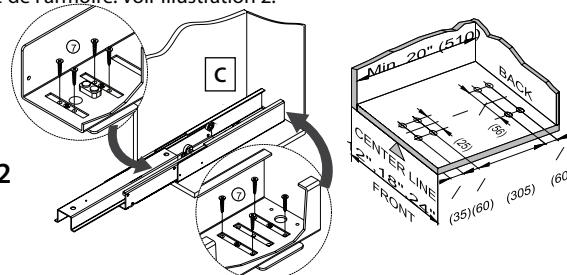

fig. 2
- 2)** Mark 8 hole locations and drill $\frac{1}{8}$ " pilot holes. Roughly align the front of the slide with the front of the face frame and center the slide in the cabinet. Attach to the floor using screws (#7). When using the template to align the pilot hole, be sure to fold across the dotted line on the front of the template to wrap over the face frame or front end of the frameless cabinet. This will keep your slide from being installed too far back into the cabinet. See figure 2.